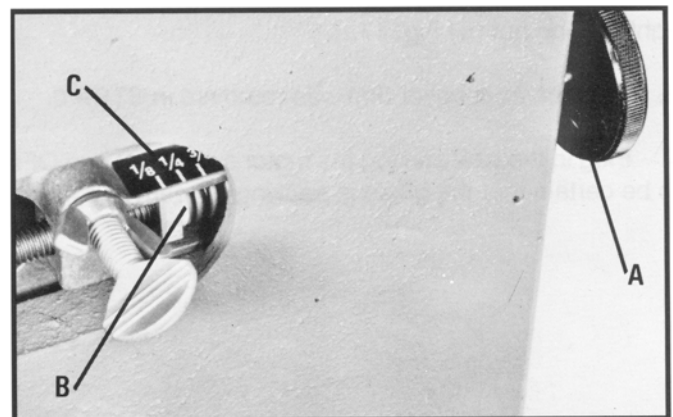

Fig. 14
With the saw blade centered on the three wheels, turn the knob (A) Fig. 14, clockwise to increase blade tension or counterclockwise to decrease blade tension until fiber washer (B) lines up with corresponding blade width on scale (C) Fig. 14.